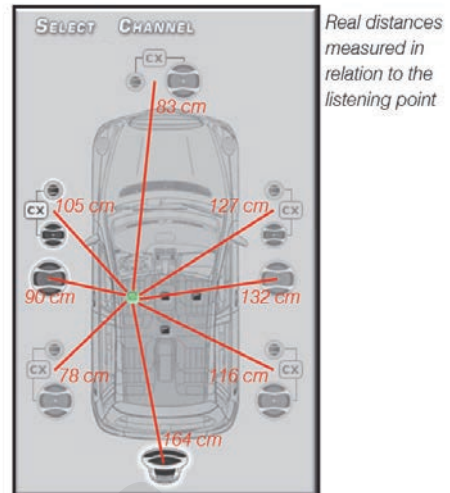

Fig. 4
**Example of setting the time delay (Fig.4):**